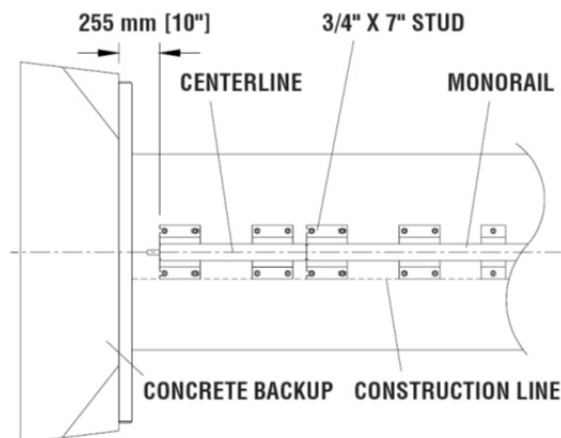

Figure 51
A) Monorail Construction for Concrete Backup (See Figure 51).
Locate Monorail on foundation with side of Monorail on the construction line and rear edge of Monorail 10" forward of front face of Concrete Backup (See Figure 51).
Orient the Monorail so that the Monorail tongues face Backup (See Figure 51).